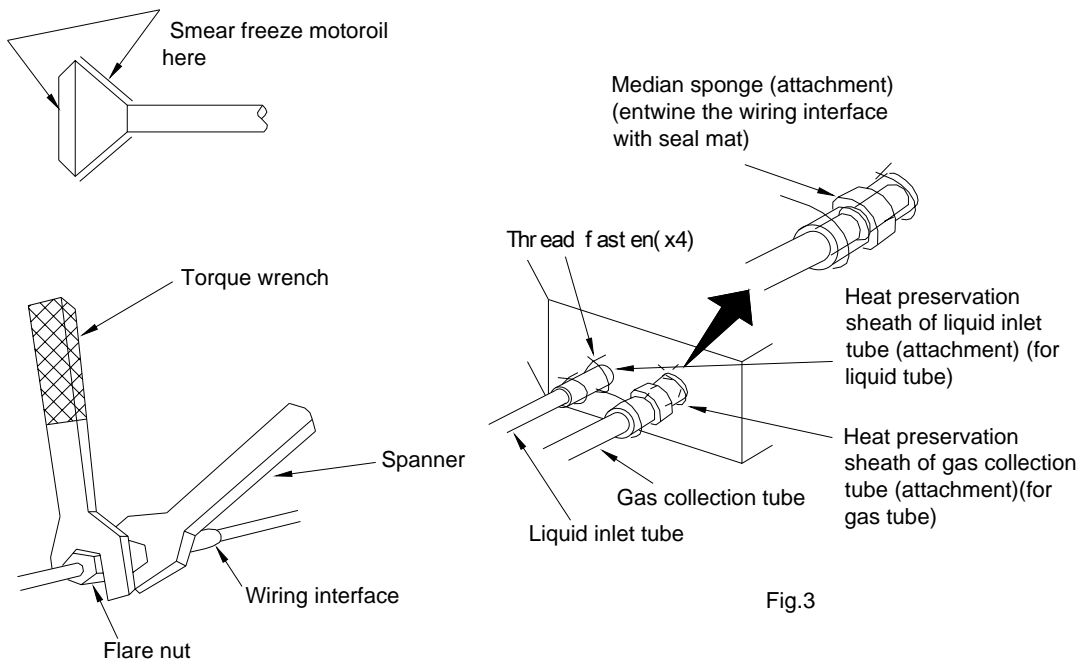

Fig.3
- When connect the pipe to the unit or backout it from the unit, please do use both spanner and torque wrench. as shown in fig.3.
- Examine the connection pipe to see if it had gas leakage, then take the treatment of heat insulation, as shown in the fig.3.